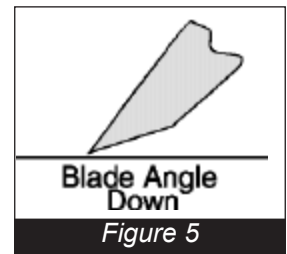

Figure 5
- Generally, on wooden based floors, the bevel on the blade should be facing down and use a flatter angle of cut. (Figure 5 - angle exaggerated) Using an angle that is too steep may result in damage to the floor base material.